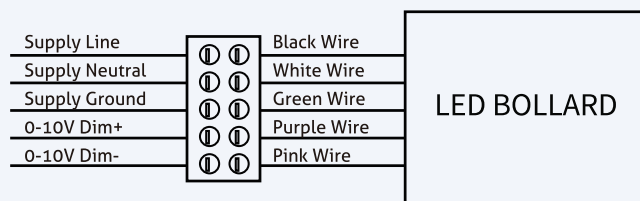

Fig 8
9. Connect the wires, then tighten the terminal block with a flat-head screwdriver, and check to make sure all wires are in good connection **Fig. 8**.